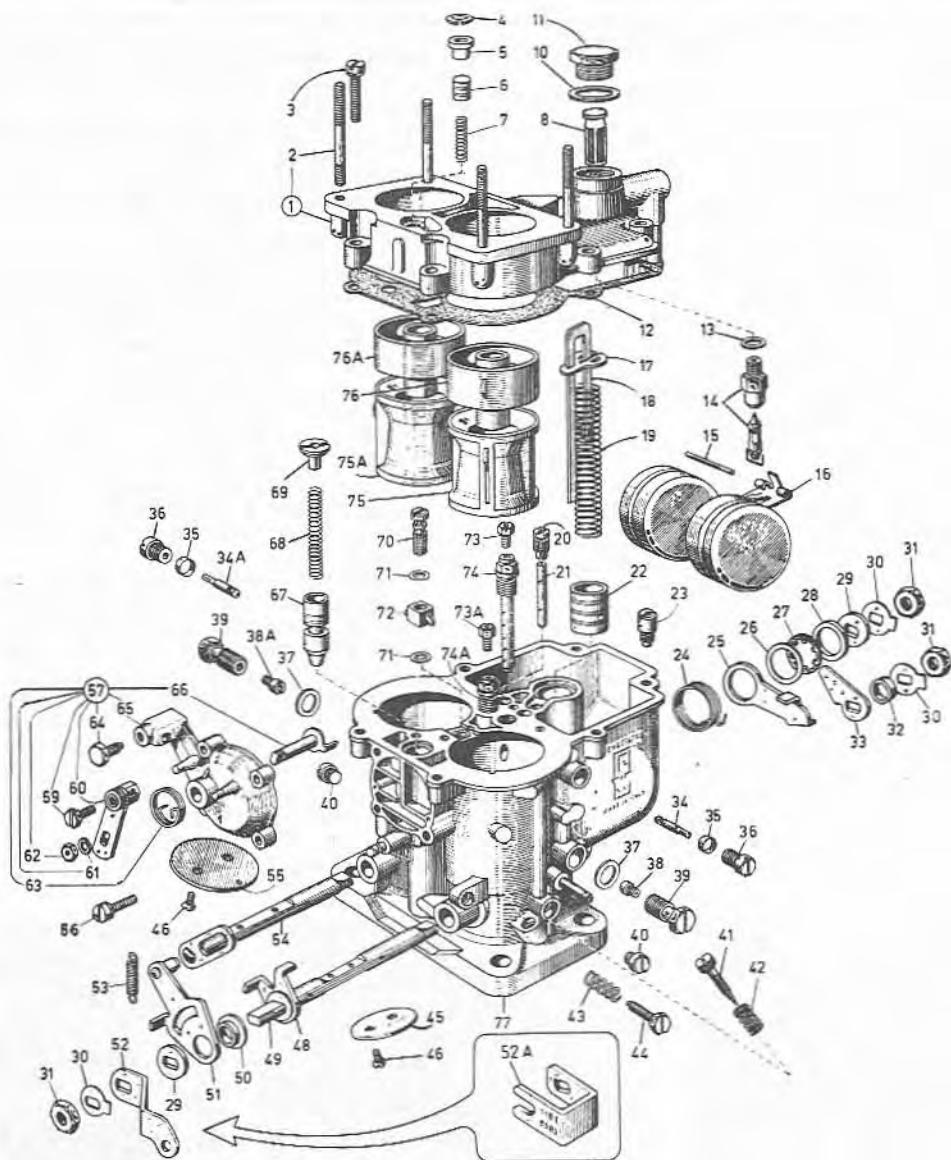

Fig. 6.7 Exploded view of the DCD carburettor (typical) (Sec 5)
- 2 Referring to Fig. 6.7, unscrew the filter inspection plug (11), remove the gasket (10) and extract the fuel filter (8) (photos).
- 3 Using a suitable screwdriver, unscrew the carburettor cover retaining screws (3) together with the spring washers, then carefully withdraw the cover (1) from the carburettor body (77). With a new carburettor this is straightforward, but where the seat of the starter plunger spring (7) is a loose fit in the cover (1), it may easily fall out together with the spring (7) and plunger (6) (photo).
- 4 Remove the gasket (12) from the carburettor cover (1).
- 5 Invert the carburettor cover (1) so that the float assembly is uppermost, then use a suitable diameter pin punch to release the float fulcrum pin (15) from the two posts.
- 6 Using a pair of flat pliers, extract the fulcrum pin (15), then carefully withdraw the float (16), at the same time disconnecting the long tab on the float arm from the spring hook on the end of the needle valve needle (photo).
- 7 Lift the needle from the needle valve (14) seating (photo).
- 8 Using a 10 mm socket, unscrew the needle valve seating and remove the gasket (13).
- 9 If the starter plunger spring seat is still retained in the cover (1), use a plastic rod entered through the lockwasher (4) and tap out the seating, spring (7), and plunger (6).
- 10 The lockwasher (4) is retained in the carburettor cover (1) by local peening and unless the starter plunger seat (5) requires renewal (see overhaul Section 6) neither item should be removed. If removal is necessary, extract the lockwasher (4) and use a small file to remove the peening; the plunger seat (5) can then be driven out from below by using a suitable diameter drift.
- 11 Unscrew and remove the main jet holders (39) together with the gaskets (37) and place them in separate containers